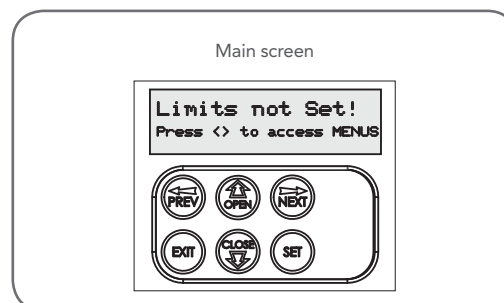

Fig 6.3
- If this is the first time the NeoSlider™ has been used, the MAIN SCREEN should indicate that the limits are not set (Fig. 6.3). If the display shows that some input is active then rectify the situation before proceeding. If a default setting is to be changed it should be done now before setting the travel limits.